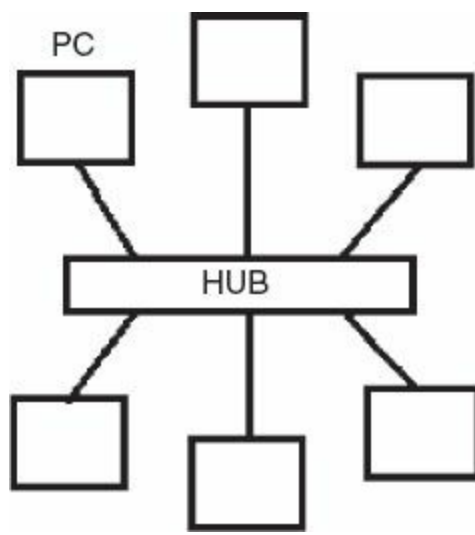

FIGURE 11.1 Star topology.
- Star topology: The computers are connected to a central controller or hub as shown in Fig. 11.1. The hub is the network device that repeats the information it receives and passes it to the other computers. The several advantages of star topology are that it is easy to set up and expand the network, and that if a computer in the star breaks, the rest of the computers is not affected or disturbed. Disadvantage of the star topology is that if the hub breaks down, the whole network crashes.